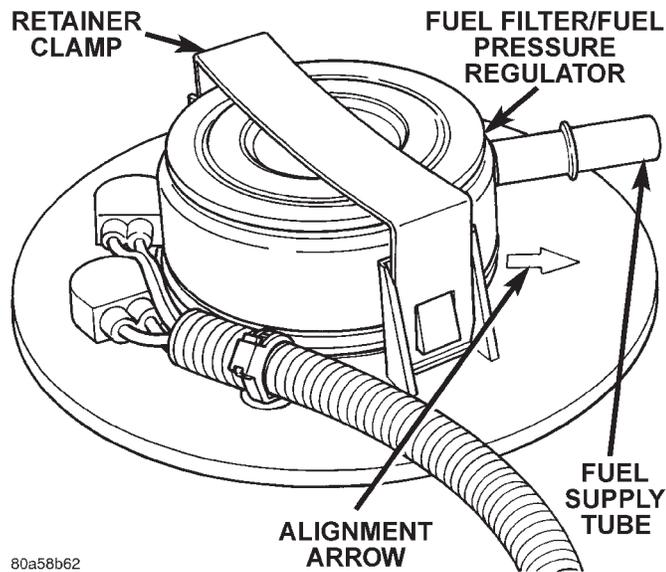
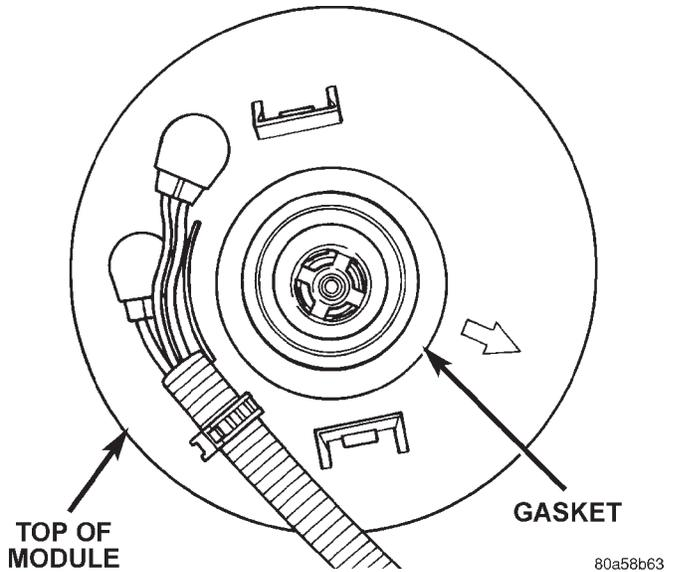

Fig. 22 Fuel Filter/Fuel Pressure Regulator
Fig. 23 Fuel Filter/Fuel Pressure Regulator Gasket
- (1) Remove fuel tank. Refer to Fuel Tank Removal/Installation.
- (2) Clean area around filter/regulator.
- (3) Remove retainer clamp from top of filter/regulator (Fig. 22). Clamp snaps to tabs on pump module. Discard old clamp.
- (4) Pry filter/regulator from top of pump module with 2 screwdrivers. Unit is snapped into module.
- (5) Discard gasket below filter/regulator (Fig. 23).
- (1) Clean recessed area in pump module where filter/regulator is to be installed.
- (2) Obtain new filter/regulator (two new o-rings should already be installed).
- (3) Apply a small amount of clean engine oil to o-rings. **Do not install o-rings separately into fuel pump module. They will be damaged when installing filter/regulator.**
- (4) Install new gasket to top of fuel pump module.
- (5) Press new filter/regulator into top of pump module until it snaps into position (a positive click must be heard or felt).
- (6) The molded arrow (Fig. 22) on top of fuel pump module should be pointed towards front of vehicle (12 o'clock position).
- (7) Rotate filter/regulator until fuel supply tube (fitting) is pointed to 11 o'clock position.
(1) Using a new gasket, position fuel pump module into opening in fuel tank.
(2) Position locknut over top of fuel pump module.
(3) Rotate module until arrow (Fig. 22) is pointed toward front of vehicle (12 o'clock position). This step must be done to prevent float/float rod assembly from contacting sides of fuel tank.
(4) Install Special Tool 6856 to locknut.